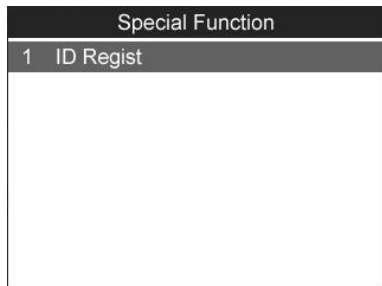

Figure 6.12
- 1) From **Special Function** Menu, use the **UP/DOWN** scroll button to select **ID Regist** function. (Figure 6.12)